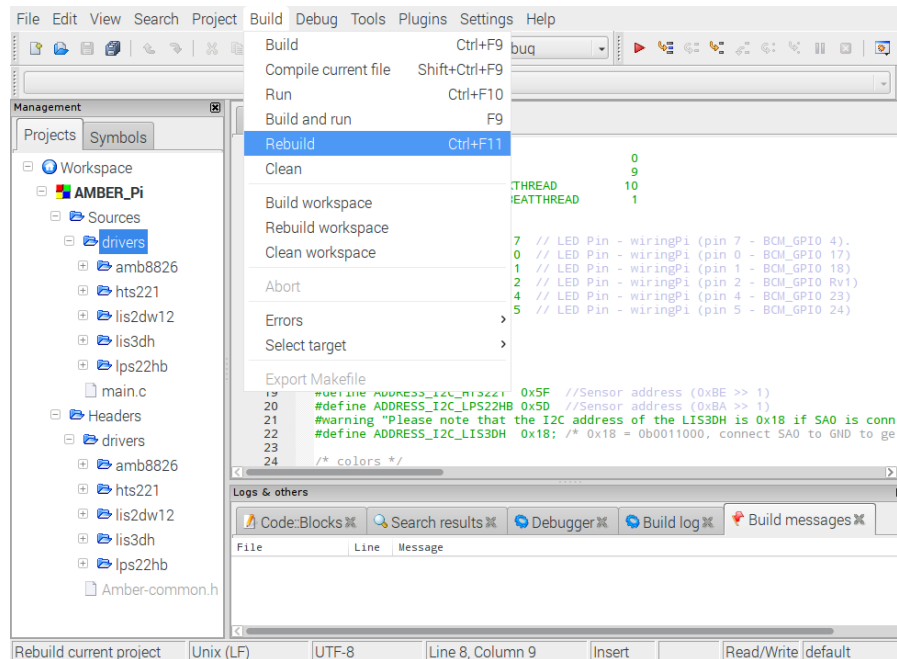

Figure 7: Rebuild the application
7. Then press **Build** → **Rebuild** to build the project (see figure 7).